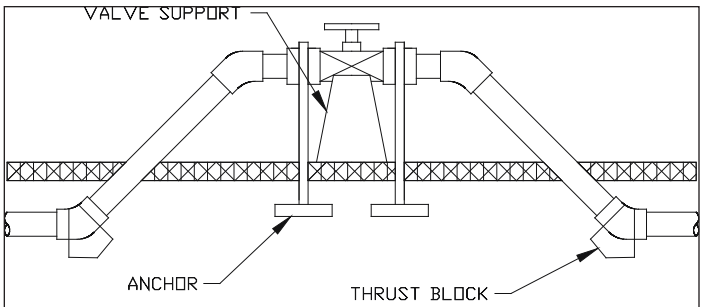

Fig 11
- Thrust blocks for above ground installation must be constructed to support fittings listed in Figures 11 & 12. The design must simulate the same support as buried concrete thrust blocks; abrasion padding is recommended.